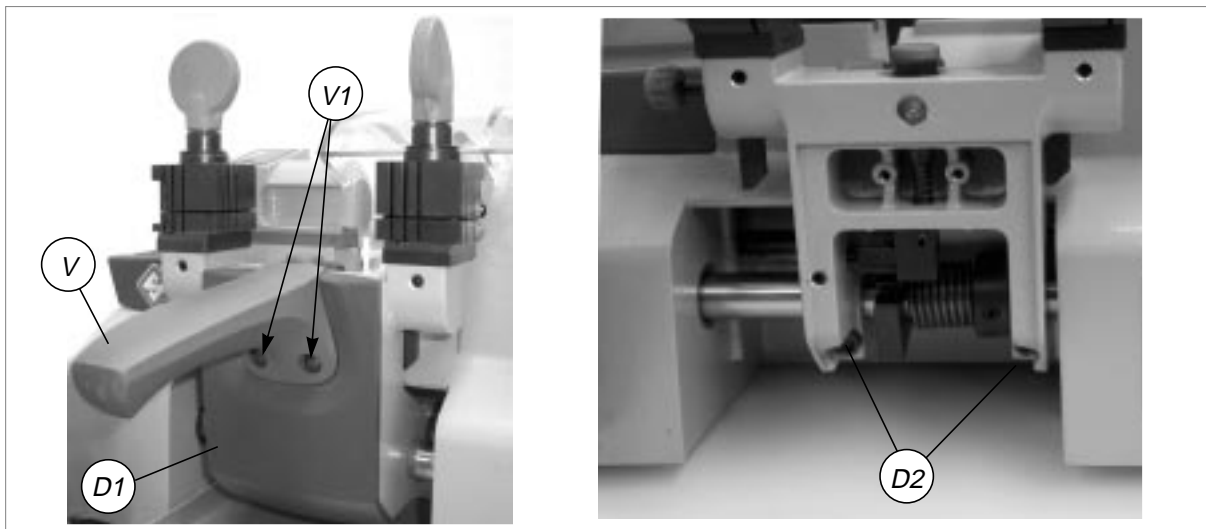
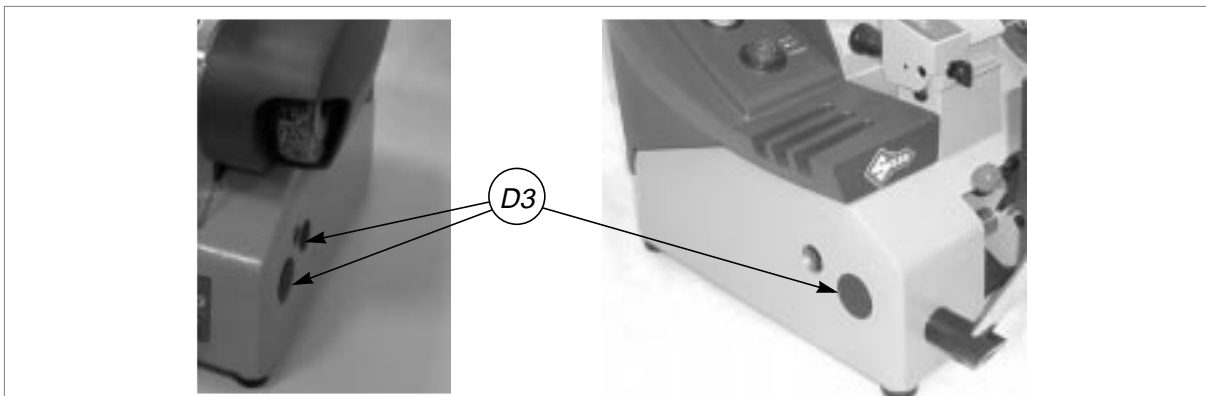
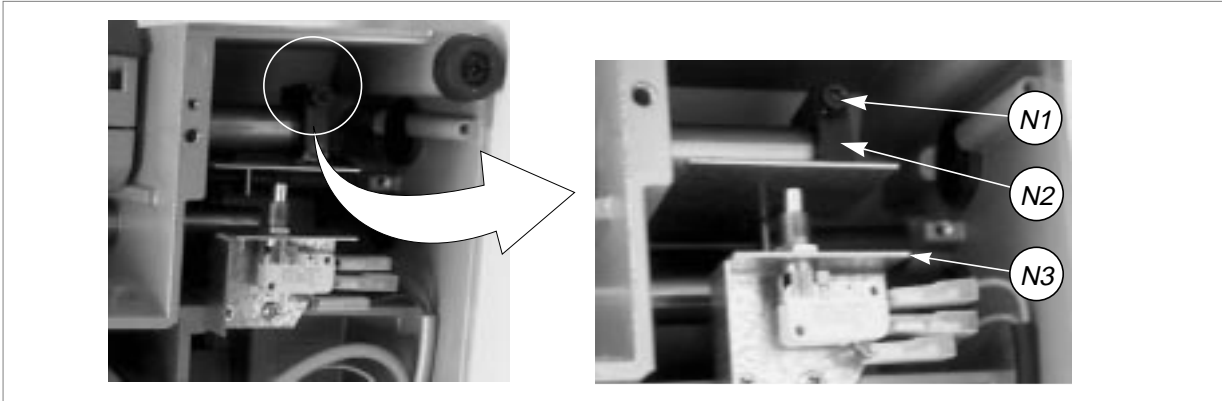

Fig. 37
Fig. 38
Fig. 39
- 3) Loosen the 2 screws (V1) on the carriage knob (V) (fig.37).
- 4) To remove the knob (V), raise a little and pull off.
- 7) Remove the caps (D3) from the base (fig. 38, page 27).
- 8) Remove the swarf tray (N).
- 10) Loosen the 7 screws (W) and 2 feet (W1) and remove the bottom panel (W2) (ch.7.7, page 21).
- 11) Loosen the screw (N1) on the cam (N2) (fig. 39, page 28) and pull the cam to the right to remove.
- 17) Replace the cam (N2) so that it pushes the plate (N3) hard up against the microswitch; tighten the screw (N1) (fig. 39, page 28).
- 18) Replace the bottom panel and fix with the 7 screws (W) and 2 feet. Fit the swarf tray.
- 21) Replace the carriage safety shield (D1) and fit the knob (V), pressing it downwards.